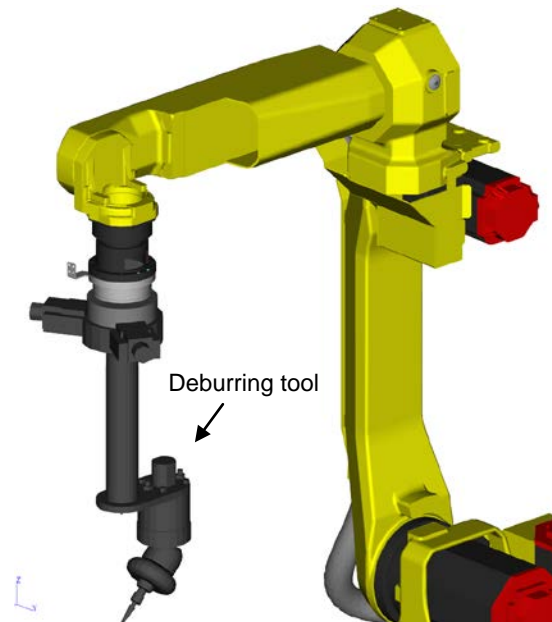

Fig. 3.1.3(b) Added deburring tool
- 2 On the UTOOL tab (Fig. 3.1.3(c)) of the tool property page, edit the tool frame. Teach the tool frame so that the tool frame Z axis is normal to the machining plane and the -Z axis is located in a direction away from the machining plane. (Fig. 3.1.3(c))